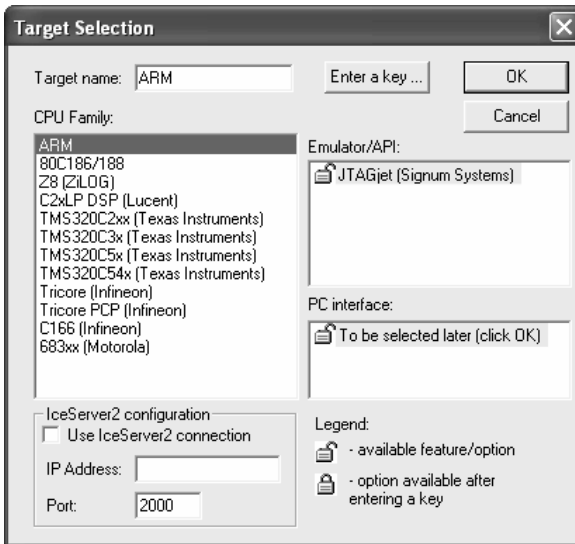

FIGURE 4 Selecting the emulator and its communication interface.
5. In the Target Selection dialog box, choose **ARM** as the CPU Family, and JTAGjet (Signum Systems) in the Emulator/API section (see Figure 4).